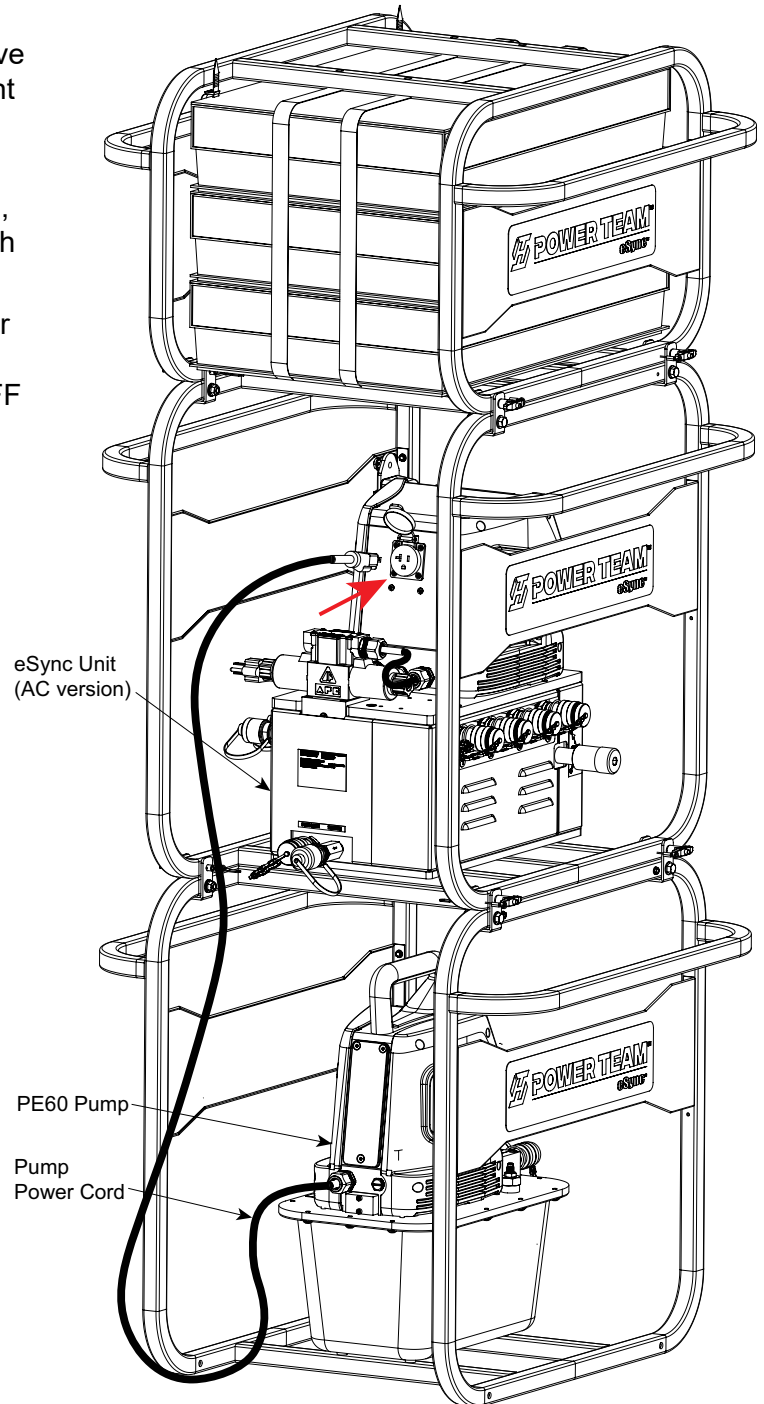

Fig. 12: PE60 Pump to eSync Connection
- B. Connect the PE60 pump cage to the eSync cage using the U-Bracket, T-Handle Lock Pin, Screw, Washer, and Nut that are supplied with the pump unit (see figure 12).
- E. Align and firmly push the plug into the eSync until it is fully inserted. Ensure that it fits securely and there are no loose connections (see figure 12).